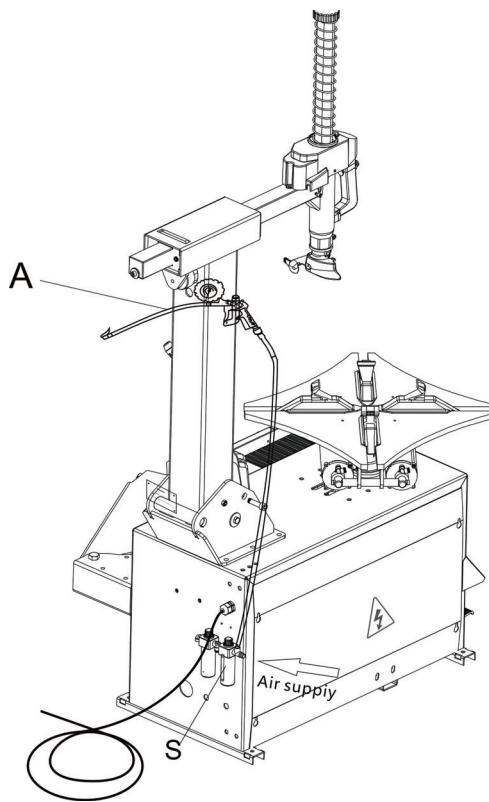

Fig.12
- Air connection: Connect the inflation gun A to the coupling located to the up of the air filter S (Fig.12).
- Connect the compressed air supply to the coupling located between the lubricator and the air filter S(as fig.12 , direction of arrow) .